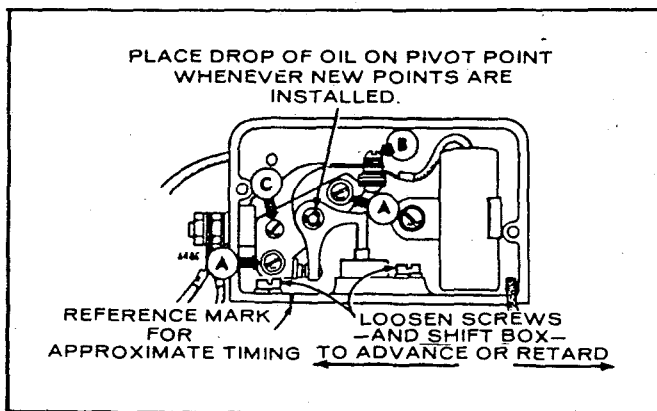

FIGURE 10. BREAKER POINTS & TIMING ADJUSTMENT
3. Remove the two mounting screws (A) and pull the points out of the box just far enough so screw (B) can be removed. See Figure 10. Replace points with a new set but do not completely tighten mounting screws (A).
5. Rotate the engine clockwise (facing flywheel) by hand until points are fully open. Turn screw (C) until point gap measures .020 inch with a flat thickness gauge.
NOTE: Each time new breaker points are installed, place a drop of oil on the point's pivot point (Figure 10).
4. If misaligned, loosen the mounting screws on breaker box (Figure 10) and move breaker box left to advance, or to the right to retard the timing.
4. Align timing marks and loosen breaker box screws (Figure 10). Move breaker box to the left (advance) or to the right (retard) until the light flickers.